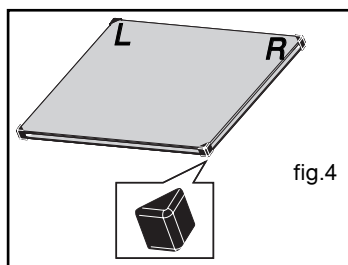

fig.4
- If necessary, remove the door's inner glass assembly. This assembly is composed of one or two sheets of glass (depending on model), each of which has a black rubber corner pad (fig.4).